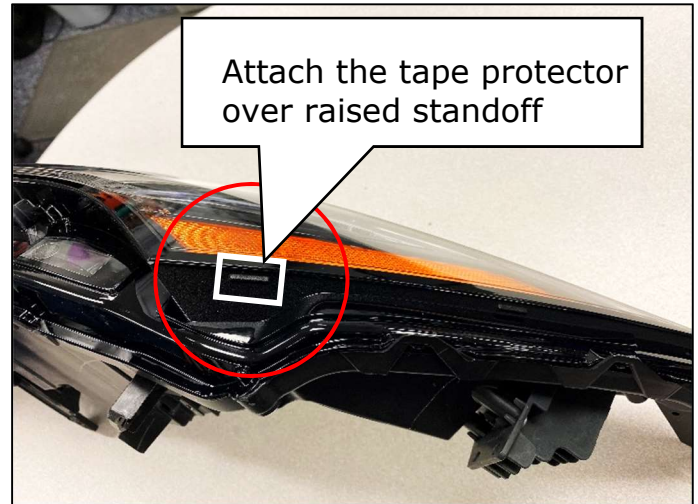

Figure 16
16. Attach the tape protector to combination lamp assembly. (figure 16)